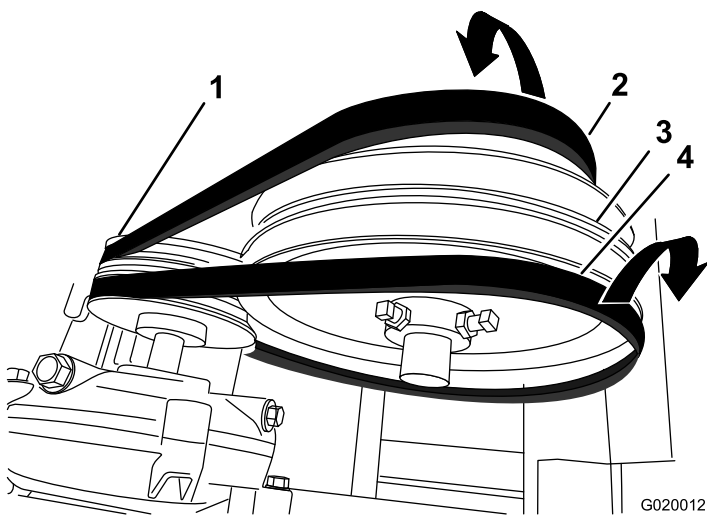

Figure 59
4. Slip the forward belt forward and off the idler pulley (Figure 59).
5. Slip the rear belt rearward and off the idler pulley (Figure 59).